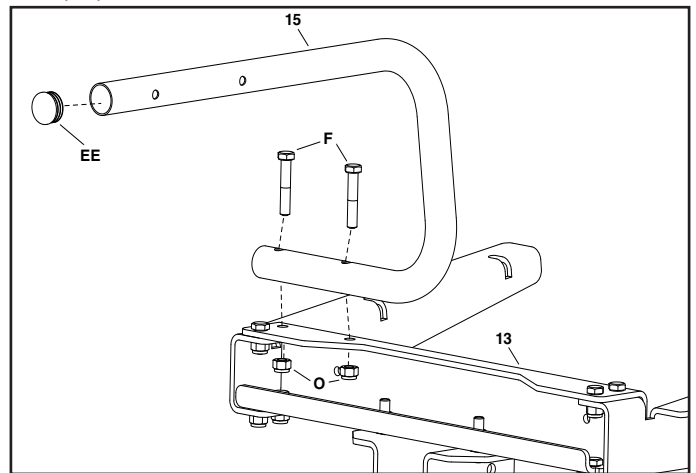

FIGURE 6
STEP 6: (SEE FIGURE 6)
- Attach the control mount tube (15) to the top left of the hopper mount bracket (13) using two hex bolts (F) and two nylock hex nut (O). Do not fully tighten yet.
- Install plug (EE) into top of the control mount tube (15)